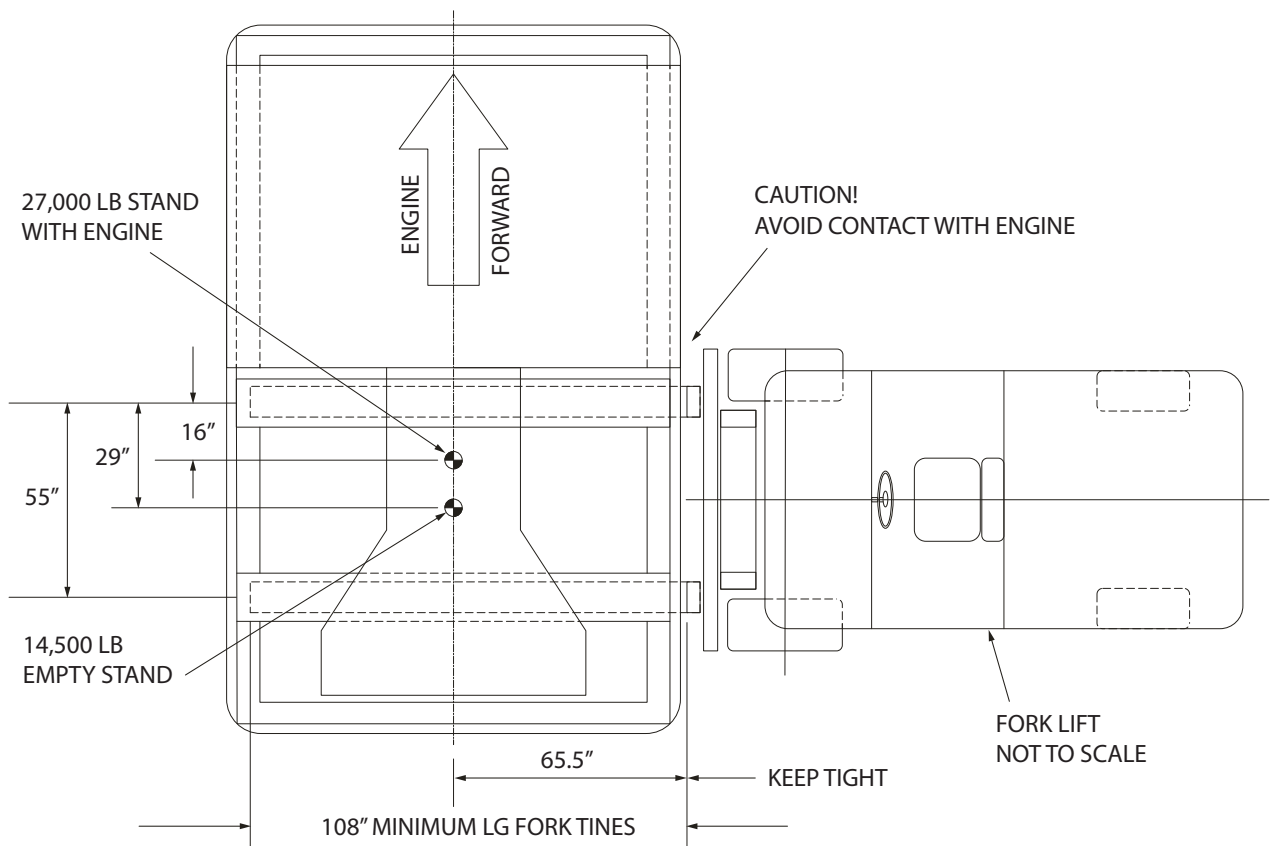

Figure 5.4.1-1
5.4.1 Fork Lifting (Figures 5.4.1-1)
Stand can be fork lifted from either side of stand. A sling (AGSE-L018/11C4484P01 or AGSE-L038-G03/11C4484P03) with spreader beam can also be used and must be attached to the four (4) designated hoist points on the base. Approximate weight of stand and engine is 28,400 Lbs. CG is behind FWD cradle roll frame. (See Figures 5.4-1, 5.4-2 and 5.4-1A).